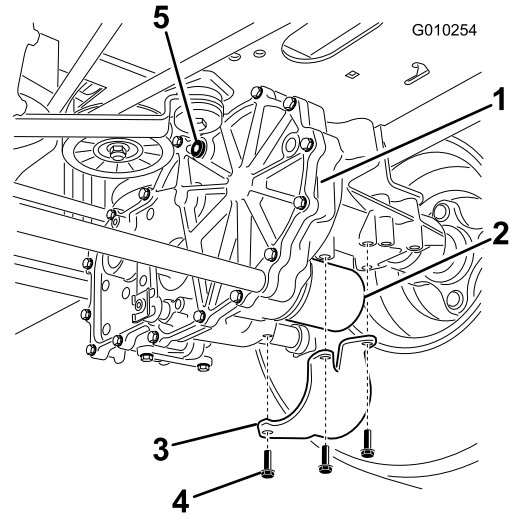

Figure 51
2. Locate the filter and guards on each transaxle drive system and remove the 3 screws securing the filter guard (Figure 51).